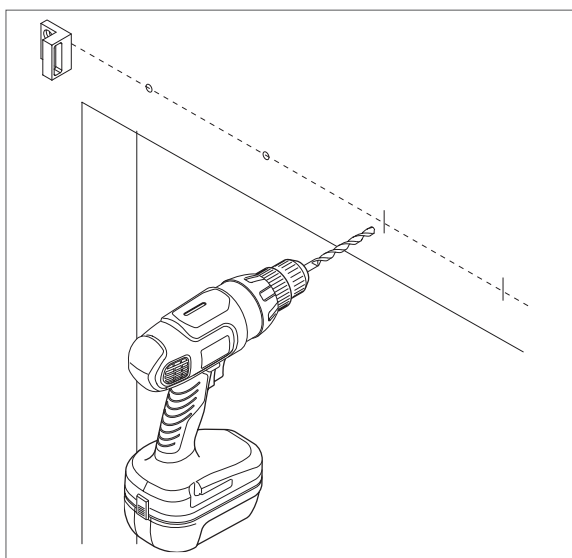

Figure 5
7. Measure and drill holes for center spacer brackets along the line drawn above the doorway (Figure 5).